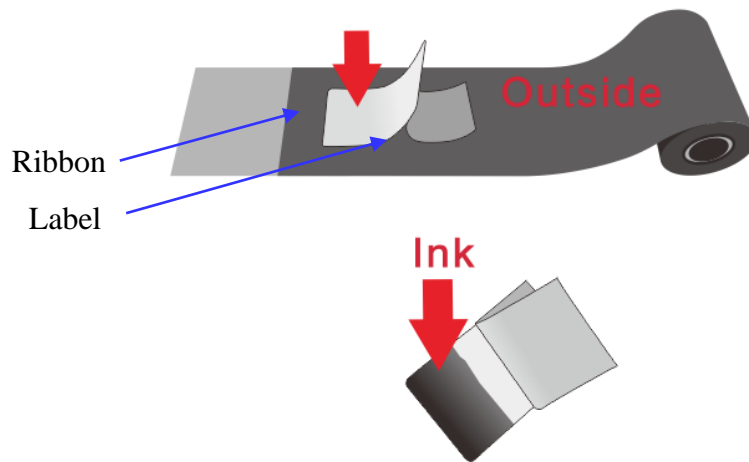

Figure 2-6 Check Ink Side
3. Stick a label to the outside/ inside of the ribbon to check which side the ink is on. See Figure 2-6.